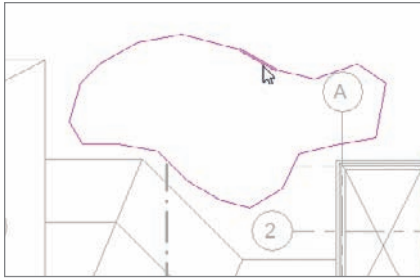

FIGURE 18.8 The split surface sketch
4. Zoom in on the corridor area that links the east and the west wings, as shown in Figure 18.8.
6. Sketch a perimeter similar to the one in Figure 18.8.